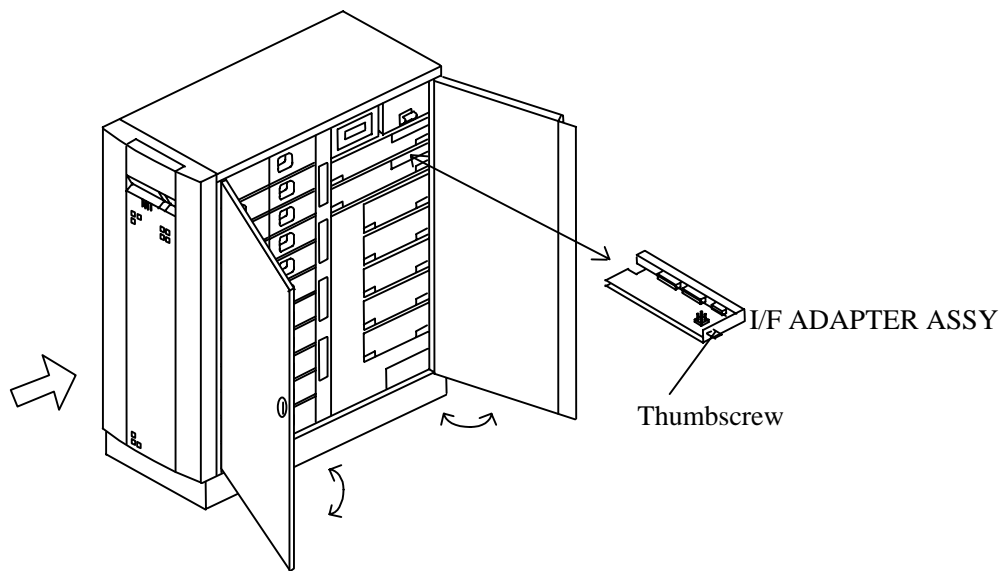

Figure 4.4.5 Setting I/F ADAPTER ASSY
(3) Setting I/F ADAPTER ASSY (See Figure 4.4.5)